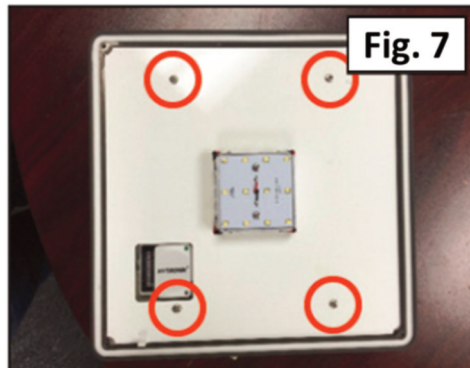

Fig. 7
2. Remove white cover plate by unfastening 4 screws. (Fig. 7)